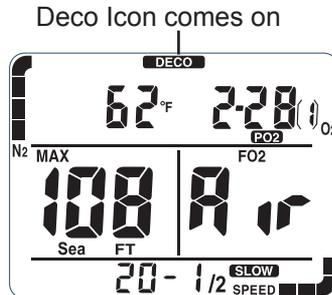

Figure 14
**Decompression dive warning:** If the dive enters decompression, then the warning is stored and displayed during log mode. (Fig. 14)